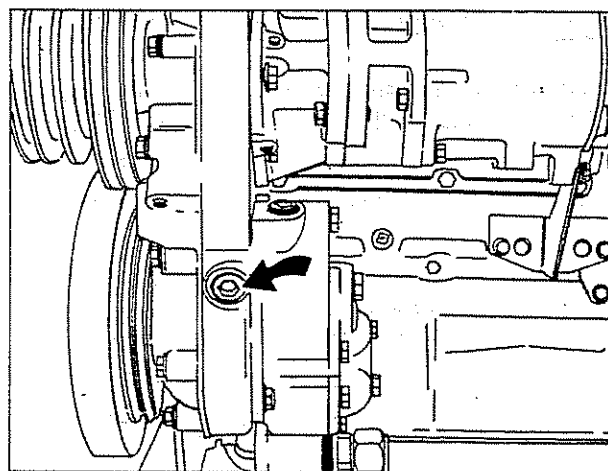
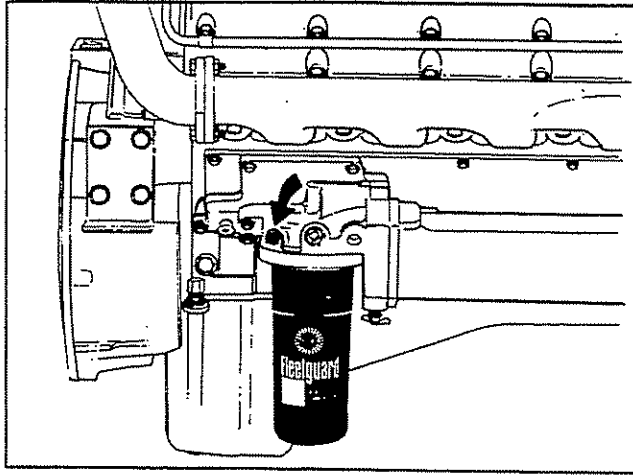
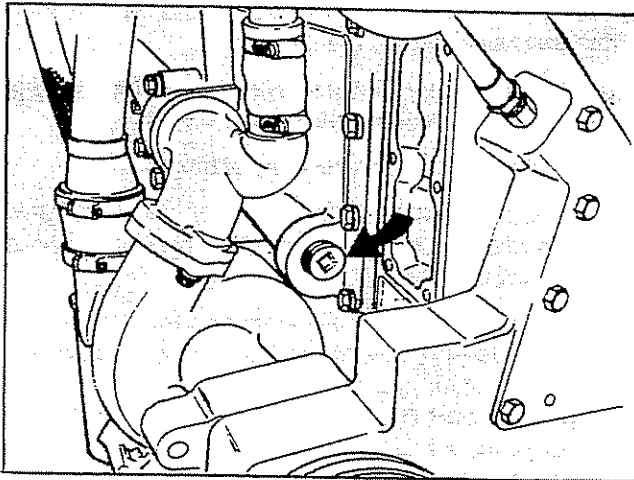

Fig. 1-1, (OM1001L). Lubricating system priming point—NT-855 C.I.D. Engine
Fig. 1-2, (OM1002L). Lubricating system priming point—VT-903 C.I.D. Engine
Fig. 1-7, (OM1004L). Lubricating system priming point — KT/KTA19 C.I.D. Engine
2. Remove the plug from the lubricating oil cross-over passage on NH/NT-855 Engines, Fig. 1-1. Remove the plug from the head of the lubricating oil filter housing on V Engines, Figs. 1-2, 1-3, 1-4, 1-5 and 1-6. On KT/KTA19 Engines, remove the plug from the front of the oil cooler housing, Fig. 1-7.